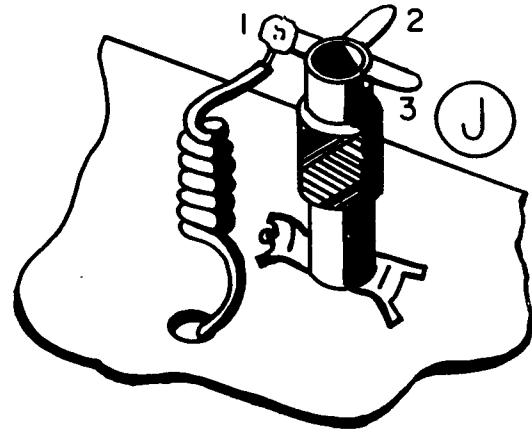

Figure 3
⊗ ✓ Wind a 2-1/2" wire around a piece of solder to form a coil. Remove the solder from the coil. Attach one end of this coil to oscillator coil J-1 (NS) as shown in Figure 3. Feed the other end through the small hole in the chassis near the oscillator coil and connect it to tuner 0-2 (S-1). Make sure tuner 0-2 does not touch the chassis.